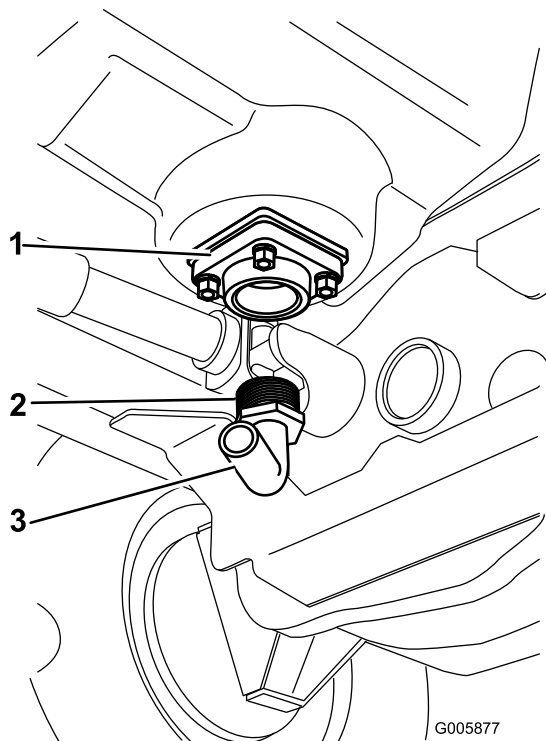

Figure 49
12. Install the new elbow fitting to the drain (Figure 49). Once fully installed, make sure the barb of the fitting is pointing to the front, left side of the machine or